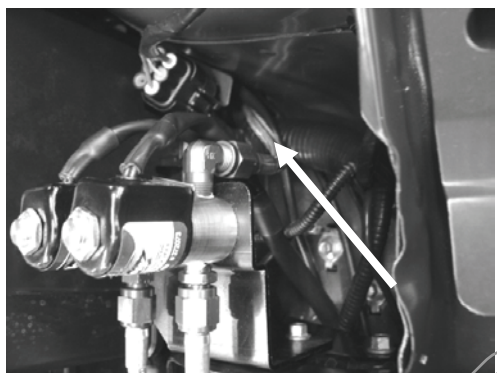

FIGURE 33
55. Take the 40" braided fuel line (00-1904-C08274*) supplied and run one end from the fuel solenoid under the driver's side rear corner of the battery tray. **(FIGURE 33)**